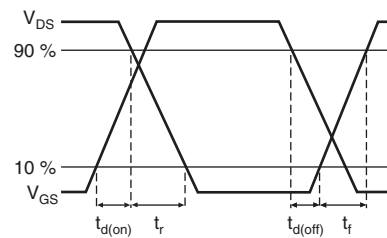

Fig. 11 - Switching Time Waveforms
- Repetitive rating; pulse width limited by maximum junction temperature (see fig. 11).
- a. Repetitive rating; pulse width limited by maximum junction temperature (see fig. 11).